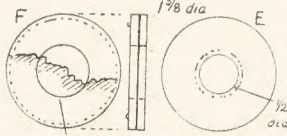

Fig. 3—Details of the eyepiece
For an eyepiece, cut a disc of  $\frac{1}{8}$  in. wood to size (E), in Fig. 3. Bore out the central hole accurately and slightly bevel its edge outside. On the inside, glue a disc of cellophane, or clear thin plastic, just a trifle larger than the hole, then glue the eyepiece to the second tube (not that lettered (G)) at the outer end, the (G) end. This tube can now be glued in the holder. The rotating ring should be removed at this stage for fixing tube (G) to it.
An object glass should now be prepared, though perhaps the term 'glass' is rather a misnomer, as no glass is used. For this, cut two discs of the  $\frac{1}{8}$  in. fretwood, the same diameter as (E), in Fig. 3, and in their centres bore out  $\frac{1}{4}$  in. holes, as at (F). Cut a disc of cellophane a